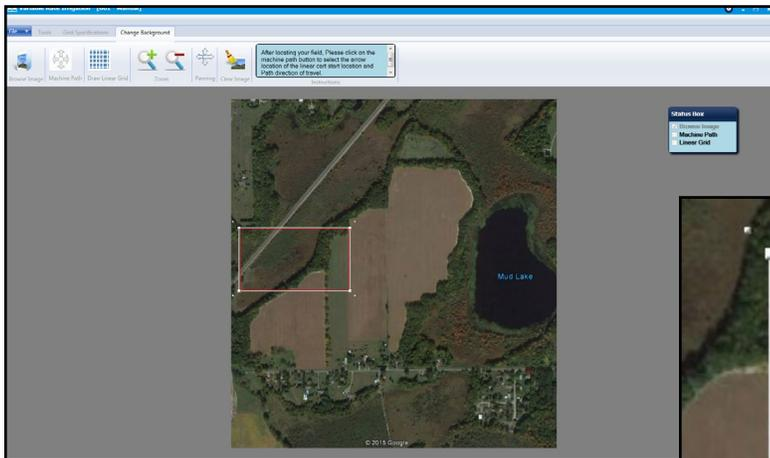

Figure 14-1
3. The image will appear with a white rectangle just outside a red rectangle. See Figure 14-1.